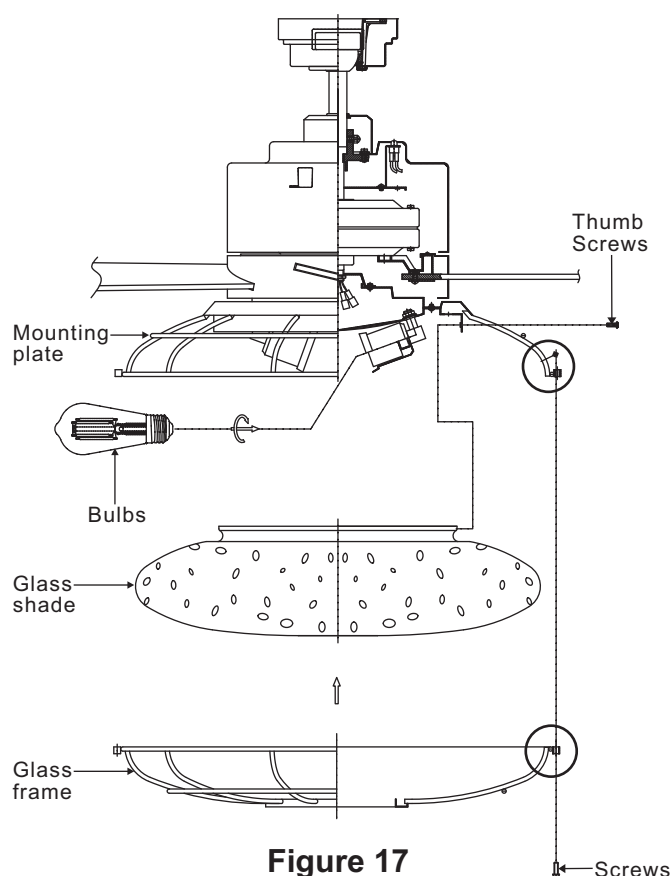

Figure 17
Step 1. Install 3 x E27/8W LED bulbs (included). (Fig. 17)
Step 2. Mount the glass shade to the mounting plate by unscrewing partway the thumbscrews on the glass holder, insert the glass, then gently tighten the thumbscrews by hand evenly to the glass. DO NOT OVER TIGHTEN. (Fig. 17)
Step 3. Raise the glass frame up against the mounting plate and secure by tightening with the four glass frame screws. (Fig. 17)